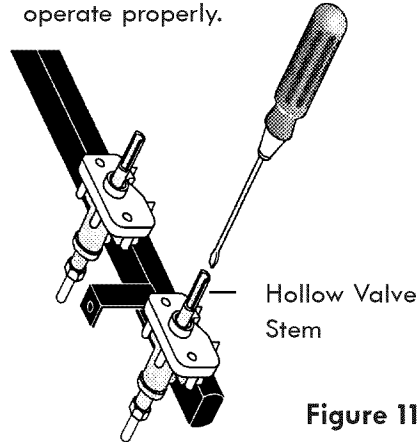

Figure 11
11.4 Adjust the "LOW" Setting of Surface Burner Valves (linear flow and three position valves) (Fig 11)